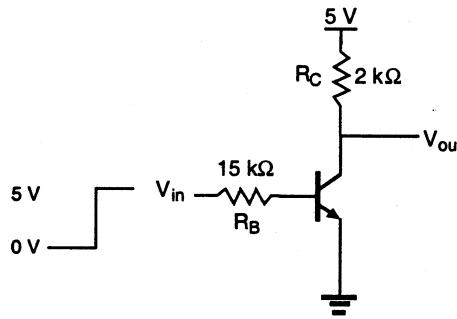
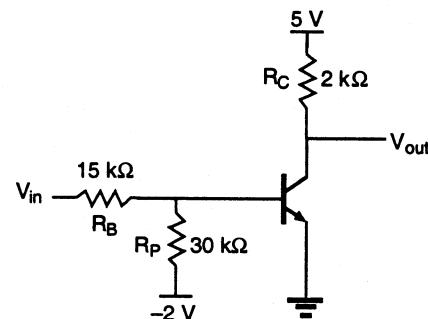

Figure P12.9a
Figure P12.9b
- (a) For the bipolar inverter shown in Fig.P12.9a, calculate the DC transfer characteristics (*i.e.*,  $V_{OH}$ ,  $V_{OL}$ ,  $V_{IH}$ ,  $V_{IL}$ ,  $NM_H$ ,  $NM_L$ ). Repeat for the circuit shown in Fig. P12.9b.
- (b) For the circuit shown in Fig. P12.9a, use hand calculations to solve for  $t_{PLH}$  and  $t_{PHL}$ . Repeat for the circuit shown in Fig.P12.9b. Describe how the pull-down resistor at the base affects propagation delay.
- (d) For the circuit shown in Fig.P12.9a, let  $R_C = 0$ . Calculate the size of the optimum speed-up capacitor to be placed in parallel with  $R_B$  to minimize the propagation delay (neglect charge due to junction capacitance). Repeat for the circuit shown in Fig.P 12.9b.
(i) Circuit of Figure P12.9a:
(ii) Circuit of Figure P12.9b: